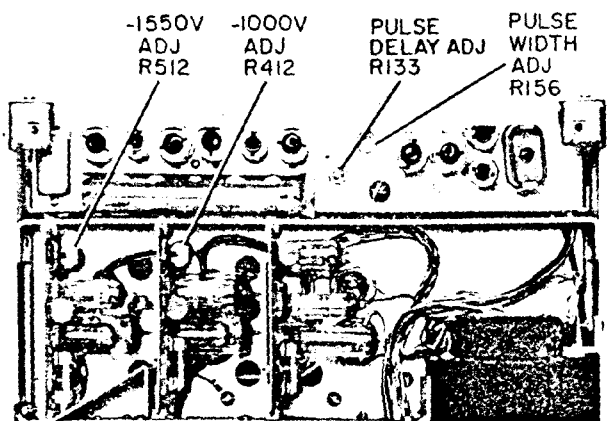

Figure 5-7. Location of Power Supply and Modulator Adjustments
e. Adjust potentiometer R412 (Figure 5-7) for  $-1000 \pm 20$  volts. Line voltage regulation ( $115 \text{ V} \pm 10\%$ ) should hold the  $-1000 \text{ V}$  supply to within  $\pm 5 \text{ V}$ ; ripple should be less than  $10 \text{ mV}$ , p-p. The  $-300 \text{ V}$  supply should track the  $-1000 \text{ V}$  supply to  $-300 \pm 10 \text{ V}$ . Line voltage regulation ( $115 \text{ V} \pm 10\%$ ) should hold the  $-300 \text{ V}$  supply to within  $\pm 5 \text{ V}$ ; ripple should be less than  $10 \text{ mV}$ , p-p.
g. Adjust potentiometer R512 (Figure 5-7) for  $-1550 \pm 20 \text{ V}$ . Line voltage regulation ( $115 \text{ V} \pm 10\%$ ) should hold the  $-1550 \text{ V}$  supply to within  $\pm 5 \text{ V}$ ; ripple should be less than  $15 \text{ mV}$ , p-p.
d. Adjust potentiometer R133 (Figure 5-7) to give a delay of 300  $\mu$ s as measured on the calibrated Oscilloscope.